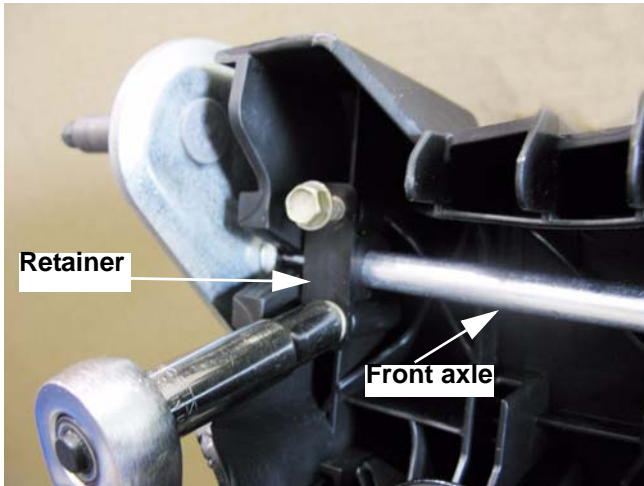

Figure 4.26
8. Remove the front axle retainers using a 3/8" wrench. See Figure 4.26.